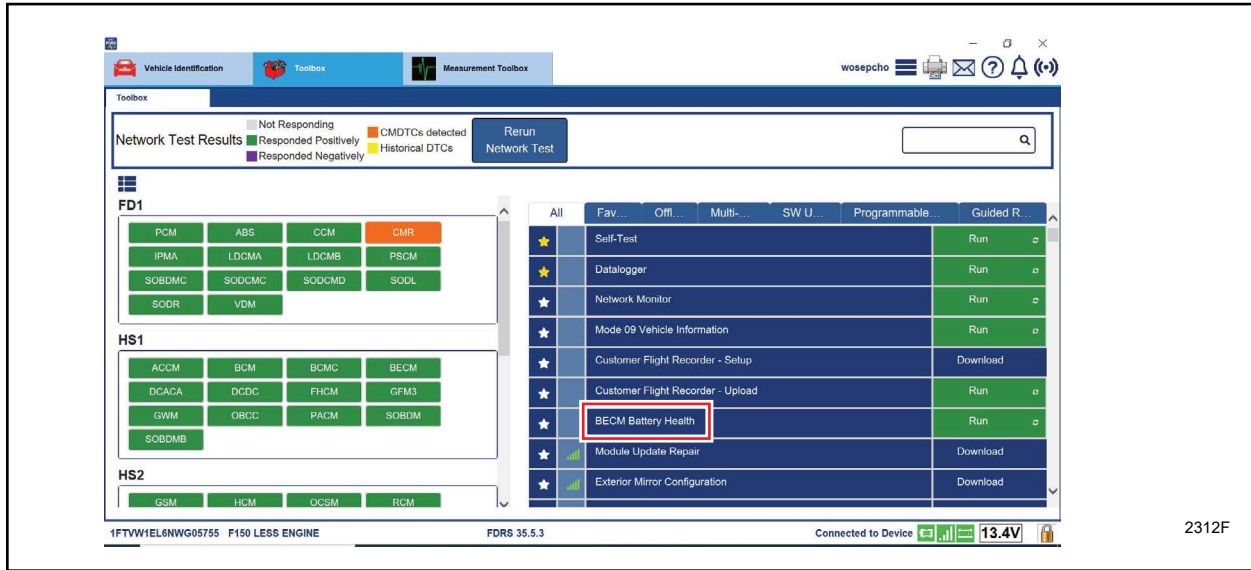

FIGURE 1
2. Using FDRS, select BECM Battery Health, click **Download** and then select **RUN**. See Figure 1.